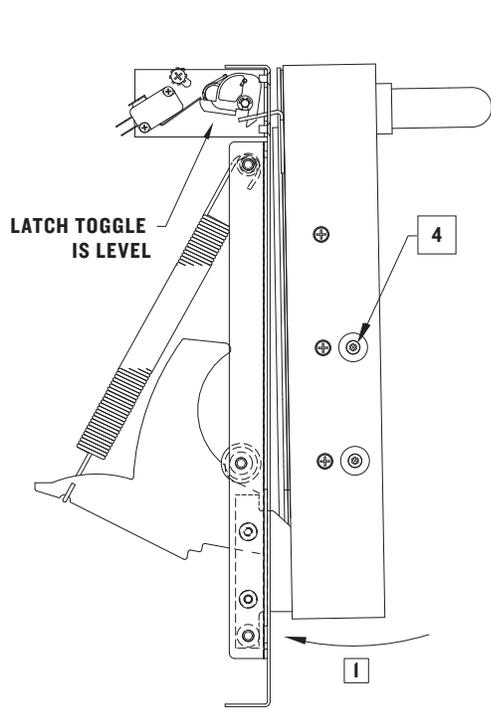
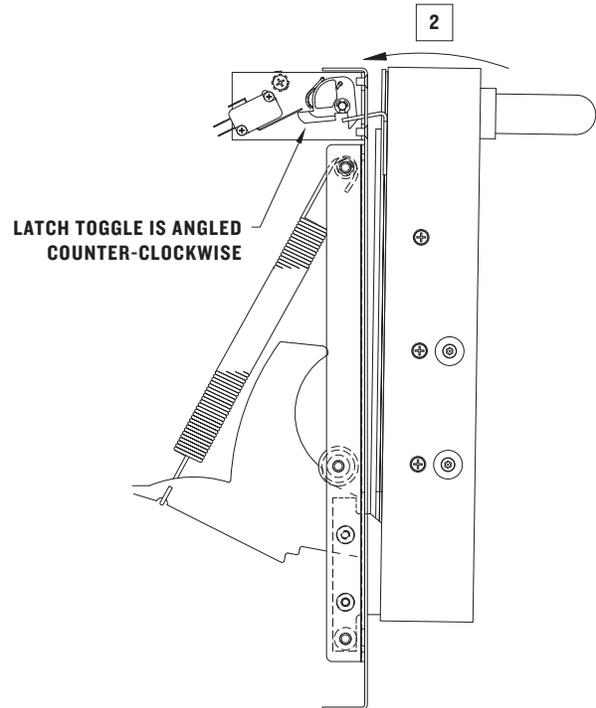
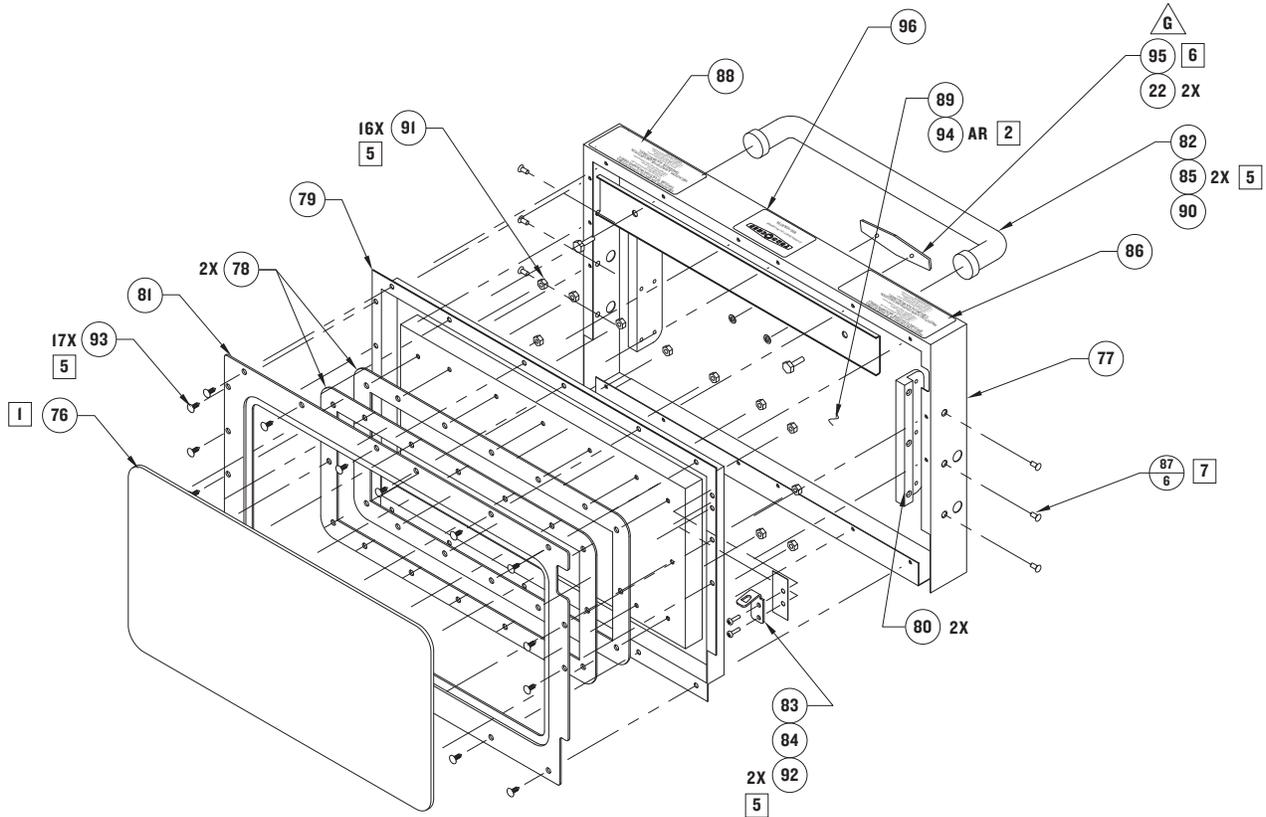

FIGURE 24: Mis-adjusted Cook Door
FIGURE 25: Mis-adjusted Cook Door
FIGURE 29: Cook Door Assembly
1. Slightly loosen the two (2) hex head screws on the left and right side of the Door Cover. See Figure 24, Note 4.
3. Starting on left side of the Cook Door, tighten the two (2) hex head screws.
4. Gently open the Cook Door. Tighten the two (2) remaining hex head screws on the right side.
1. The door in Figure 24 is adjusted incorrectly. Note that the bottom of the Cook Door is rotated away from the Flange.
2. The door in Figure 25 is adjusted incorrectly. Note the top of the Cook Door is rotated too far away from the Flange and the Latch Toggle is rotated too far counter-clockwise. The Latch Toggle should be level when the Door is adjusted correctly as in Figure 24.
CORRECTIVE ACTION: Loosen torx screws and push top of the Door towards the Flange. Re-tighten screws. The bottom of the Latch Toggle will be level when the Door is adjusted correctly. See Figure 25.
See Figure 29 above. For mis-adjustments, see Figures 24 and 25 on page 35.
Figure 29 and 30
Critical Adjustment Notes (Figure 29)